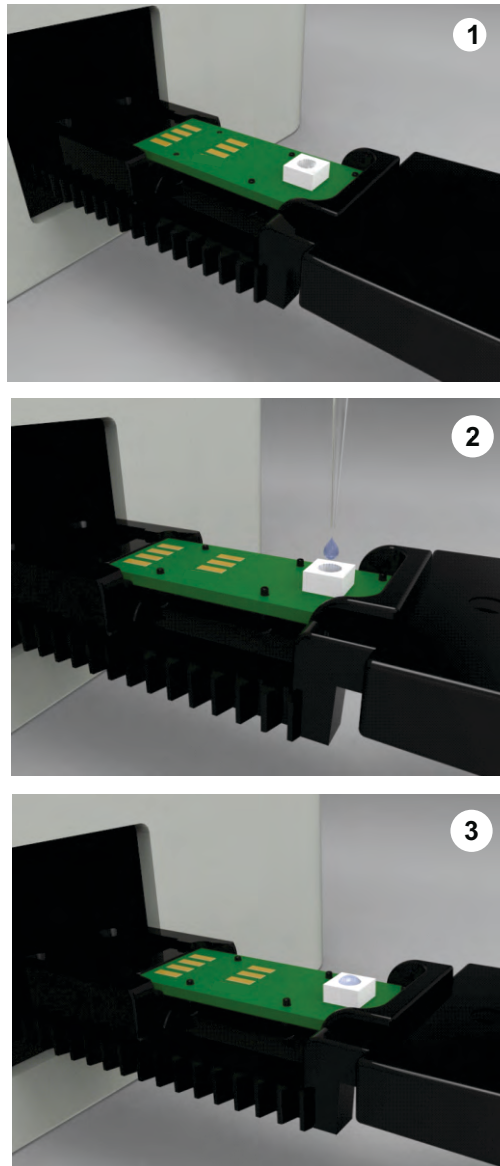

Figure 24: A Summary of the **Truenat**® Chip Loading Procedure
4.3.3.2 Figure 24 (below) shows a summary of the **Truenat**® loading procedure. When the chip has been loaded correctly, proceed to section 4.4.